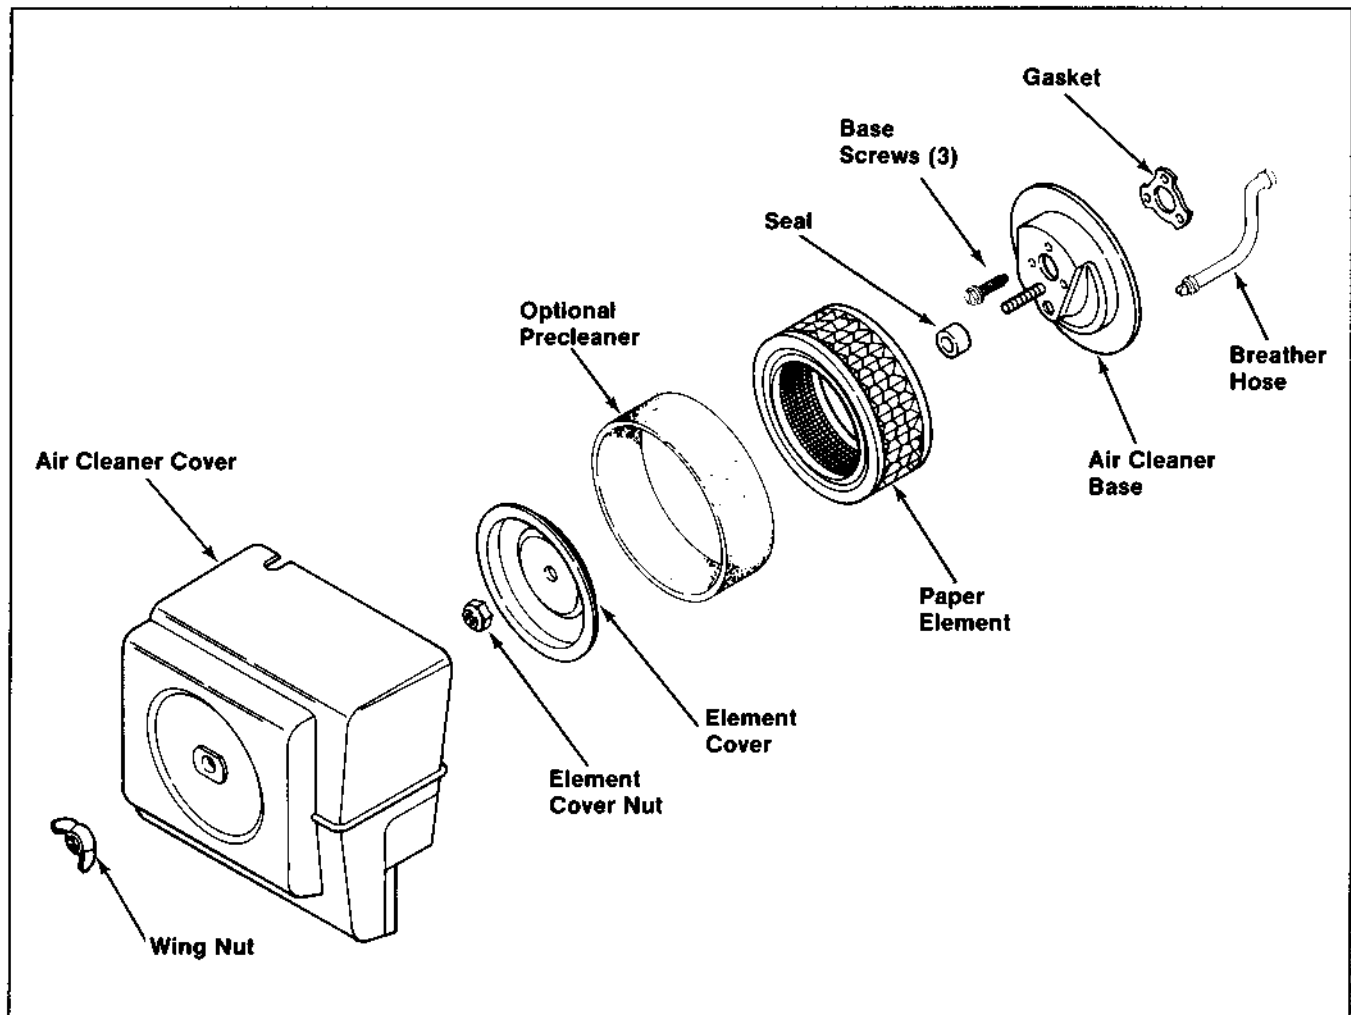

Figure 5-2. K181 New Look, Air Cleaner Assembly.
2. **Element Cover and Element Cover Nut** - On K181 New Look engines only, make sure element cover is not bent or damaged. Check that element cover nut is secured tightly to seal element between air cleaner base and element cover. Tighten nut to 50 in. lb. torque. Refer to Figure 5-2.